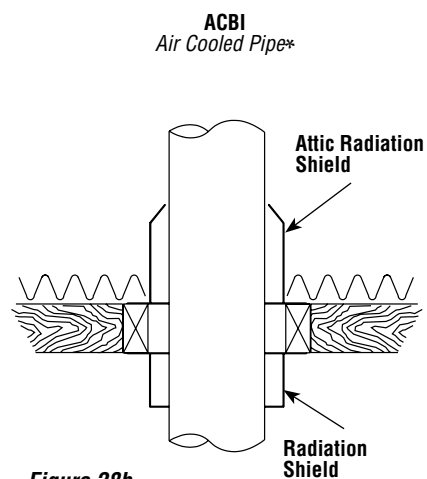

Figure 28b
5. From below, install a firestop (see **Figure 28b**).